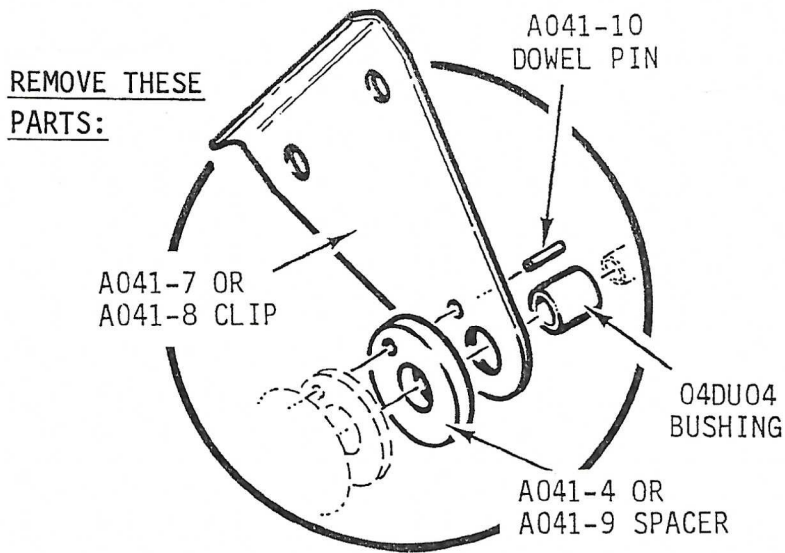

FIGURE 1
2. Remove B224-1 tail rotor drive shaft per R22 Maintenance Manual(MM) Section 7.310. Discard two NAS6603-2 bolts and two AN960-10 washers which attach damper clip to tailcone.
3. See Figure 1 and MM Section 7.321. Remove A041-8 clip & A041-9 spacer(or A041-7 clip & A041-4 spacer, as applicable) and discard. Inspect remaining parts for wear.